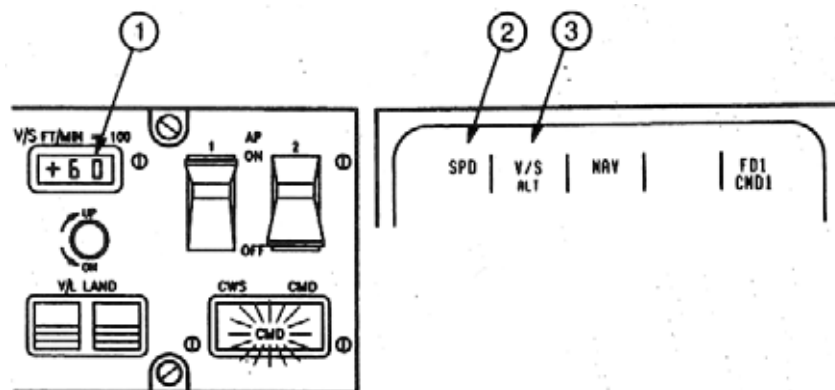

Figure 2-89
Figure 2-89 is an example of this action on the FCU (1), with the change in the longitudinal engaged mode indicated on the FMA (2). Notice also that the ATS engages in SPD (3) when the longitudinal engaged mode is V/S.